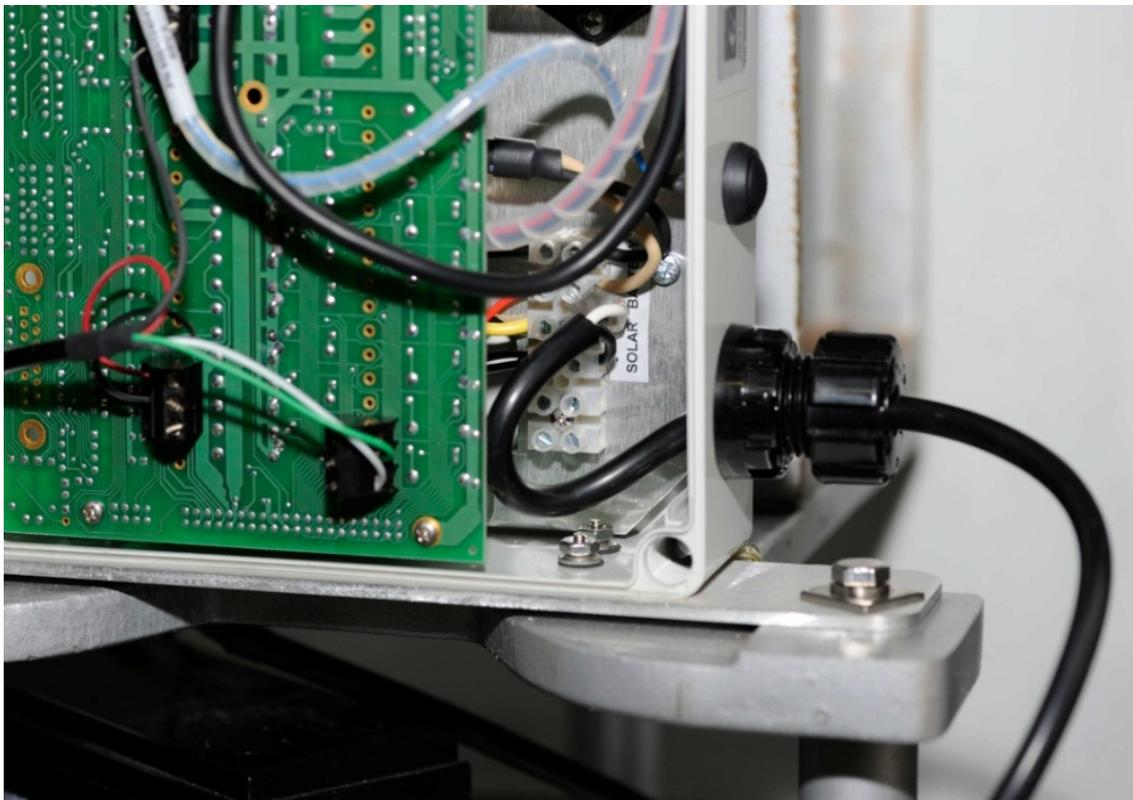

Figure A-16: Solar Panel Cable Installed
10. Insert the black wire into the solar (-) terminal, and tighten with a screwdriver. Insert the white wire into the solar (+) terminal, and tighten with a screwdriver (see Figure A-16). Solar cable connections are as follows: